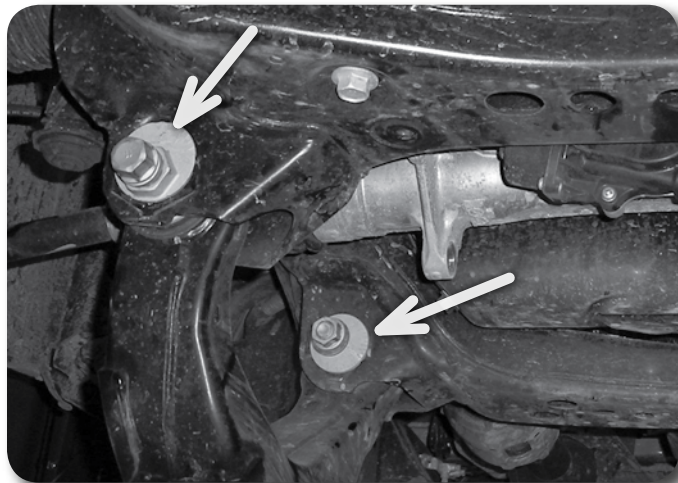

Figure 2
5. Mark the position of the lower control arm cam washers. **Figure 2** These marks will be used for reference during assembly.